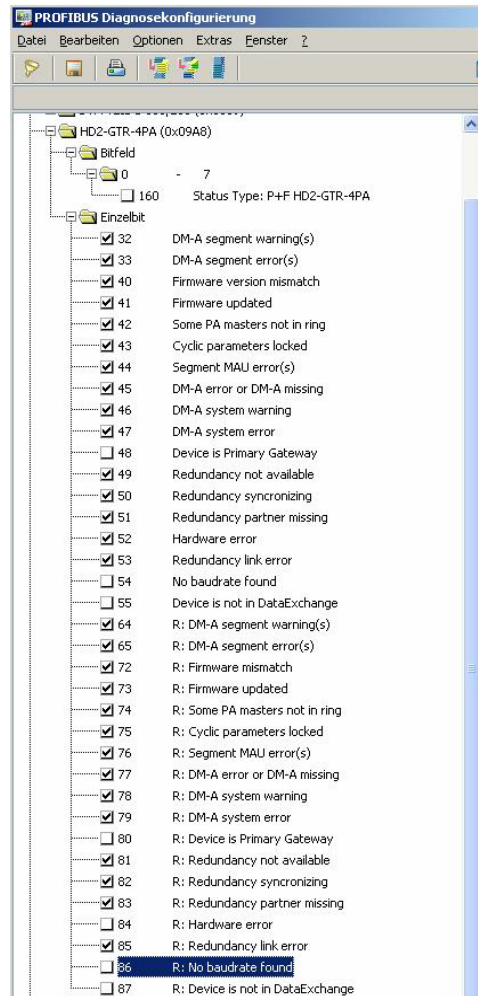

Figure 11. AC 870P / Melody - PROFIBUS Diagnostics Configuration
- Define the diagnostic information routed via the AC870P controller. Figure Figure 11 shows a recommended set of messages: